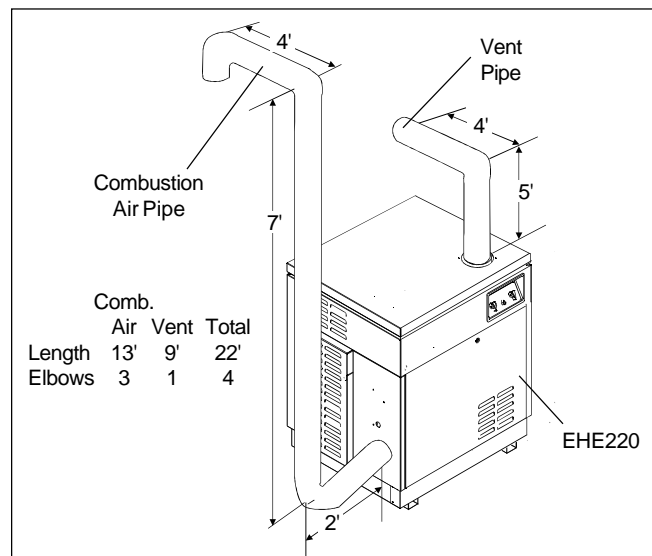

Figure 6. "Two-pipe" installation.
2. A Model 220 heater is to be installed in a two-pipe system (see Figure 6). The combustion air pipe is to be 13 feet long with three elbows and the vent pipe is to be 9 feet long with one elbow. Since the total is 22 feet and four elbows, 4" pipe must be used. (Table 3 indicates that the maximum length of 3" pipe is 11 feet for a system with four elbows.)